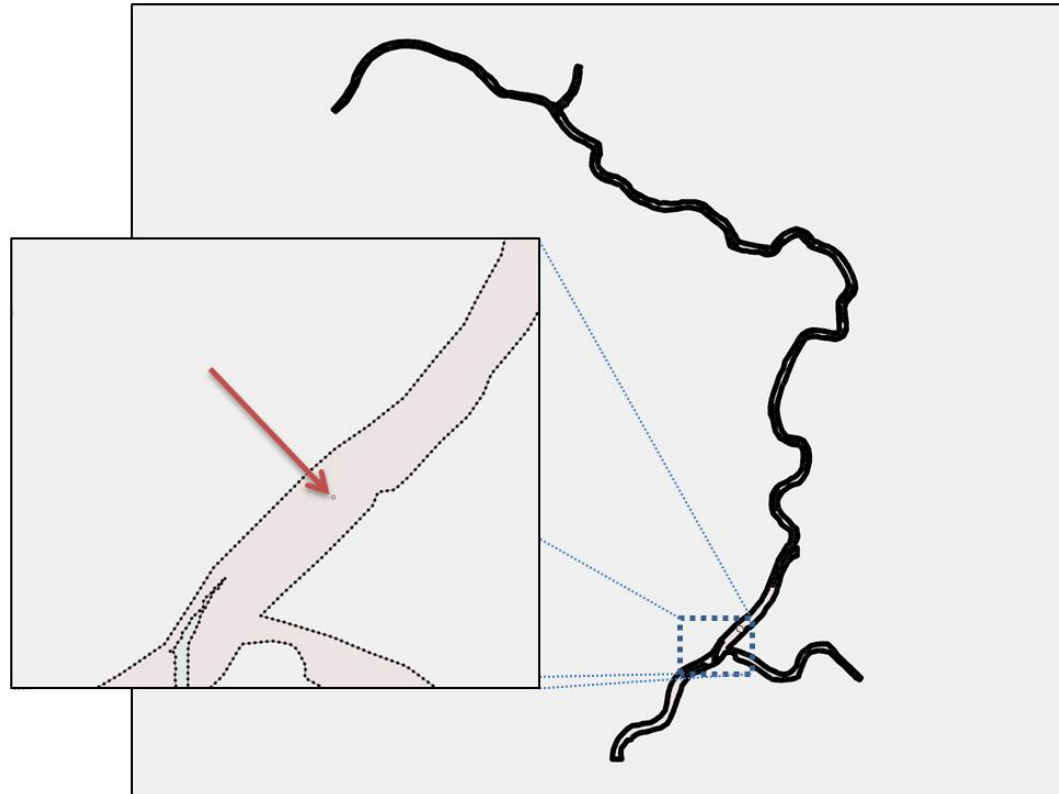

Figure 4: Wind Station location
2. **Zoom** in on the location shown in Figure 4.
3. Using the **Create Feature Point** tool, create a new node at the location shown in Figure 4.